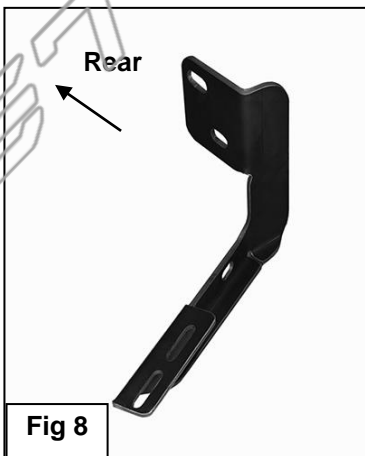

Fig 8
5. Continue along the side to the mounting location at the rear of the cab, **(Figure 7)**. Repeat **Steps 1—3** to install the passenger side Rear Mounting Bracket, **(Figures 8 & 9)**. **NOTE:** The Rear Mounting Brackets may look similar to the other Brackets but they are unique. Use the illustration on **Page 1** and **Figure 3** to properly identify the front, center and rear Brackets.